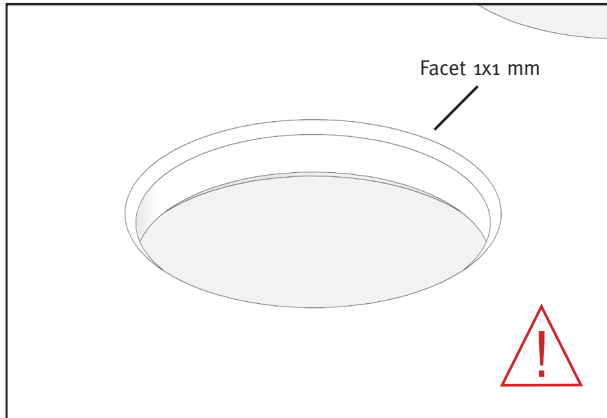

Fig. A3
- Create a very small 1x1 mm facet on both the upper and lower edges of the cutouts (Fig. A3). Caution: this does not apply to Solid Surface, see page 139.